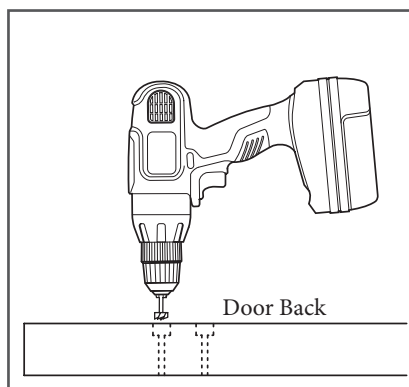

Figure 4
5. Turn the door over. Using a 1-1/8" Forstner bit\*, drill a 7/16" deep hole into each pilot hole (Figure 4).